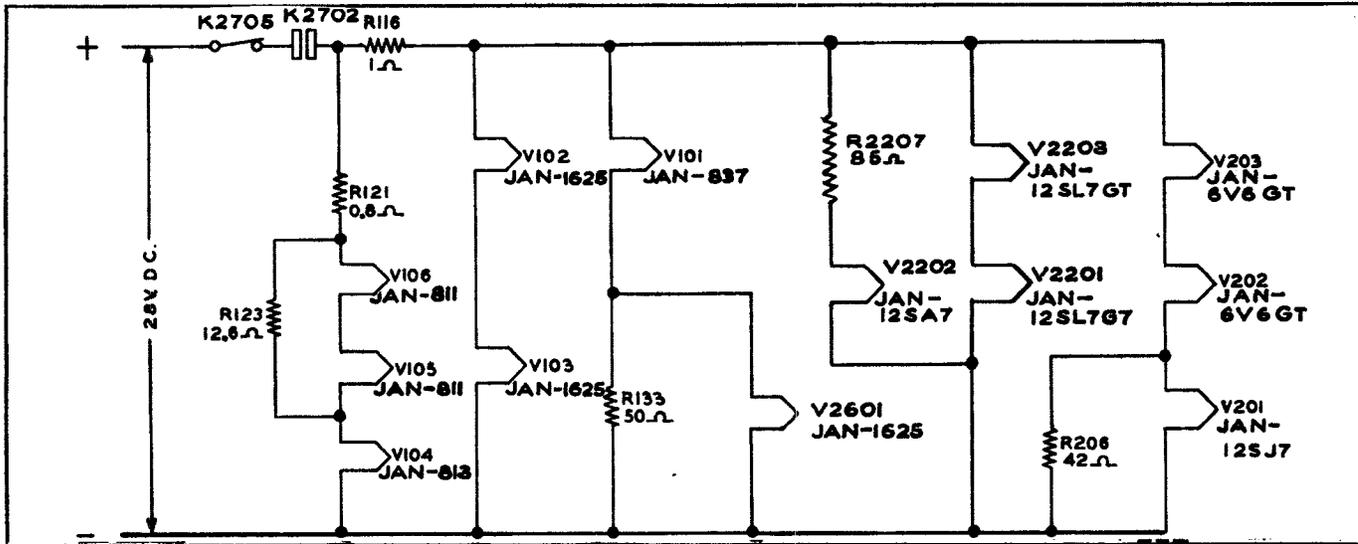

Figure 4-3. Filament Circuits
b. FILAMENT CIRCUITS.—The filament power circuits of the transmitter are a combination of series and parallel connections. The filaments are supplied with power from the 28 volt d-c source. Figure 4-3 shows the filament connections in simplified form. All filament power is controlled by primary power contactor contacts K2702. The primary overload relay, K2705, operates to break the filament circuit when an overload occurs in the filament or associated circuits.